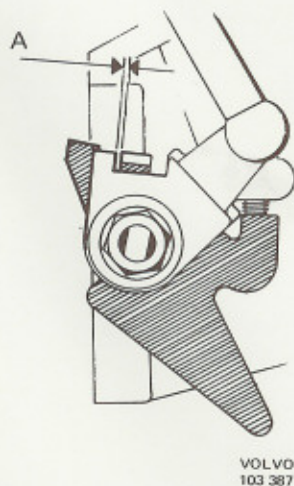

Fig. 27-2. Adjusting throttle control, idle position
1. Adjust the link rods between the throttle control shaft and carburetors, with engine idling. There should be a clearance of approx. 0.1 mm (0.0039") between the lever and throttle shaft flange, see Fig. 27-2.